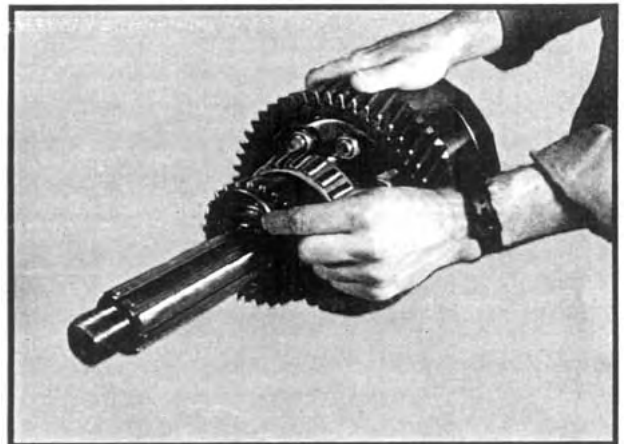

Fig 28
- Remove the retaining ring from the front output shaft. See Figure 28